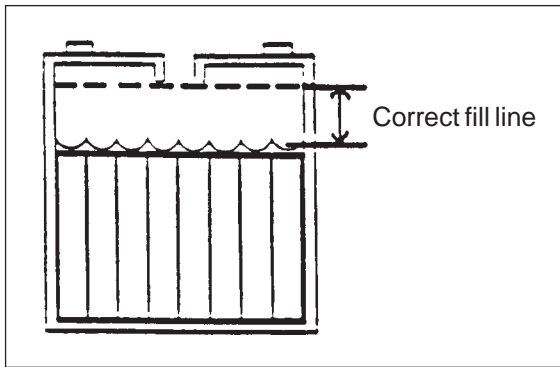

Figure 15
1. Keep the electrolyte at the correct level. The correct level is between 1/4" below the bottom of the tube in each cell and above the tops of the plates. Check the level of the electrolyte each time you charge the batteries. See figure 15.